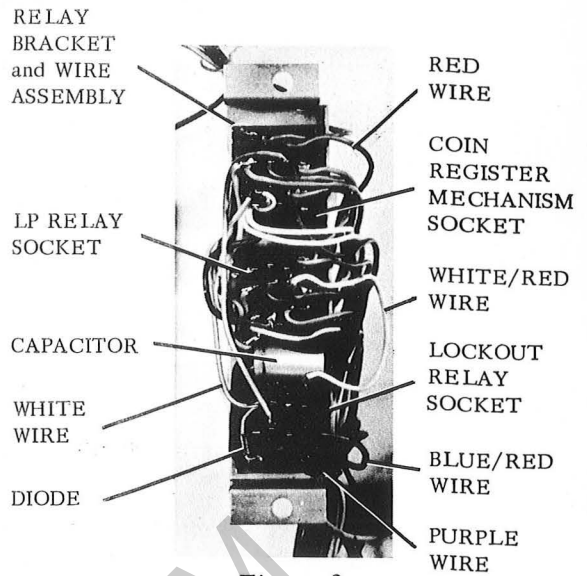

Figure 2.
9. Unsolder and disconnect White wire from Contact 13 of LOCKOUT RELAY SOCKET. Refer to Figure 2 for socket location.
10. Connect CAPACITOR, Part No. 76462-37, between Contacts 13 and 14 of LOCKOUT RELAY SOCKET (plus side of CAPACITOR to Contact 13) as shown in Figure 2. Do not solder at this time.
11. Connect DIODE, Part No. 76700-20, between Contacts 13 and 10 of LOCKOUT RELAY SOCKET (Cathode to Contact 13) as shown in Figure 2. Do not solder at this time.
12. Connect White wire, disconnected in Step 9, to Contact 10 of LOCKOUT RELAY SOCKET, as shown in Figure 2. Do not solder at this time.
13. Unsolder and disconnect the Blue/Red wire connecting the select patch to Contact 8 of LP RELAY SOCKET from Contact 8 of LP RELAY SOCKET. Refer to Figure 2. for socket location.
14. Connect Blue/Red wire, disconnected in Step 13, to Contact 12 of LOCKOUT RELAY SOCKET as shown in Figure 2. Do not solder at this time.
15. Connect three inch WHITE/RED WIRE, Part No. 75004-9, between Contact 8 of LP RELAY SOCKET and Contact 4 of LOCKOUT RELAY SOCKET as shown in Figure 2. Do not solder at this time.
23. Connect Red wire of SWITCH and BRACKET ASSEMBLY to Contact 2 of COIN REGISTER MECHANISM SOCKET as shown in Figure 2. Do not solder at this time.
24. Connect Purple wire of SWITCH and BRACKET ASSEMBLY to Contact 14 of LOCKOUT RELAY SOCKET as shown in Figure 2.